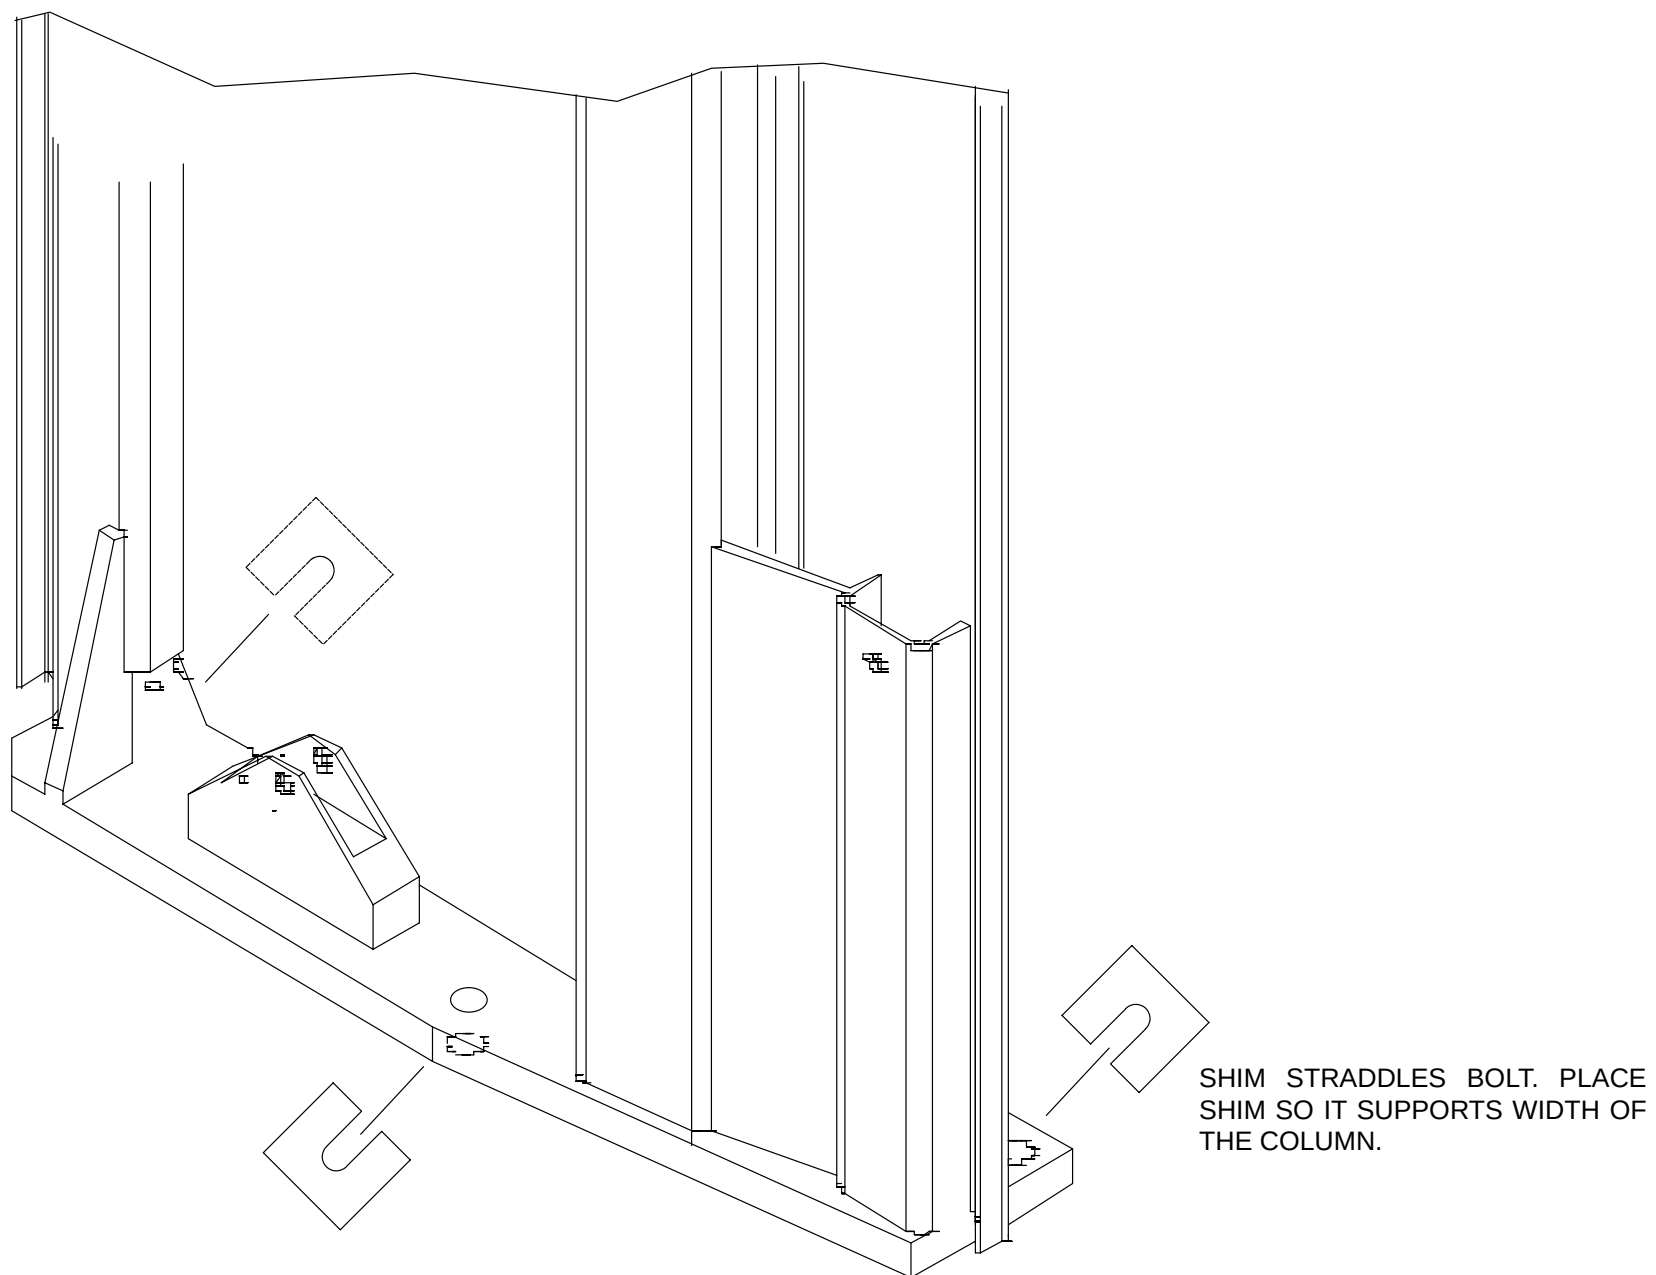
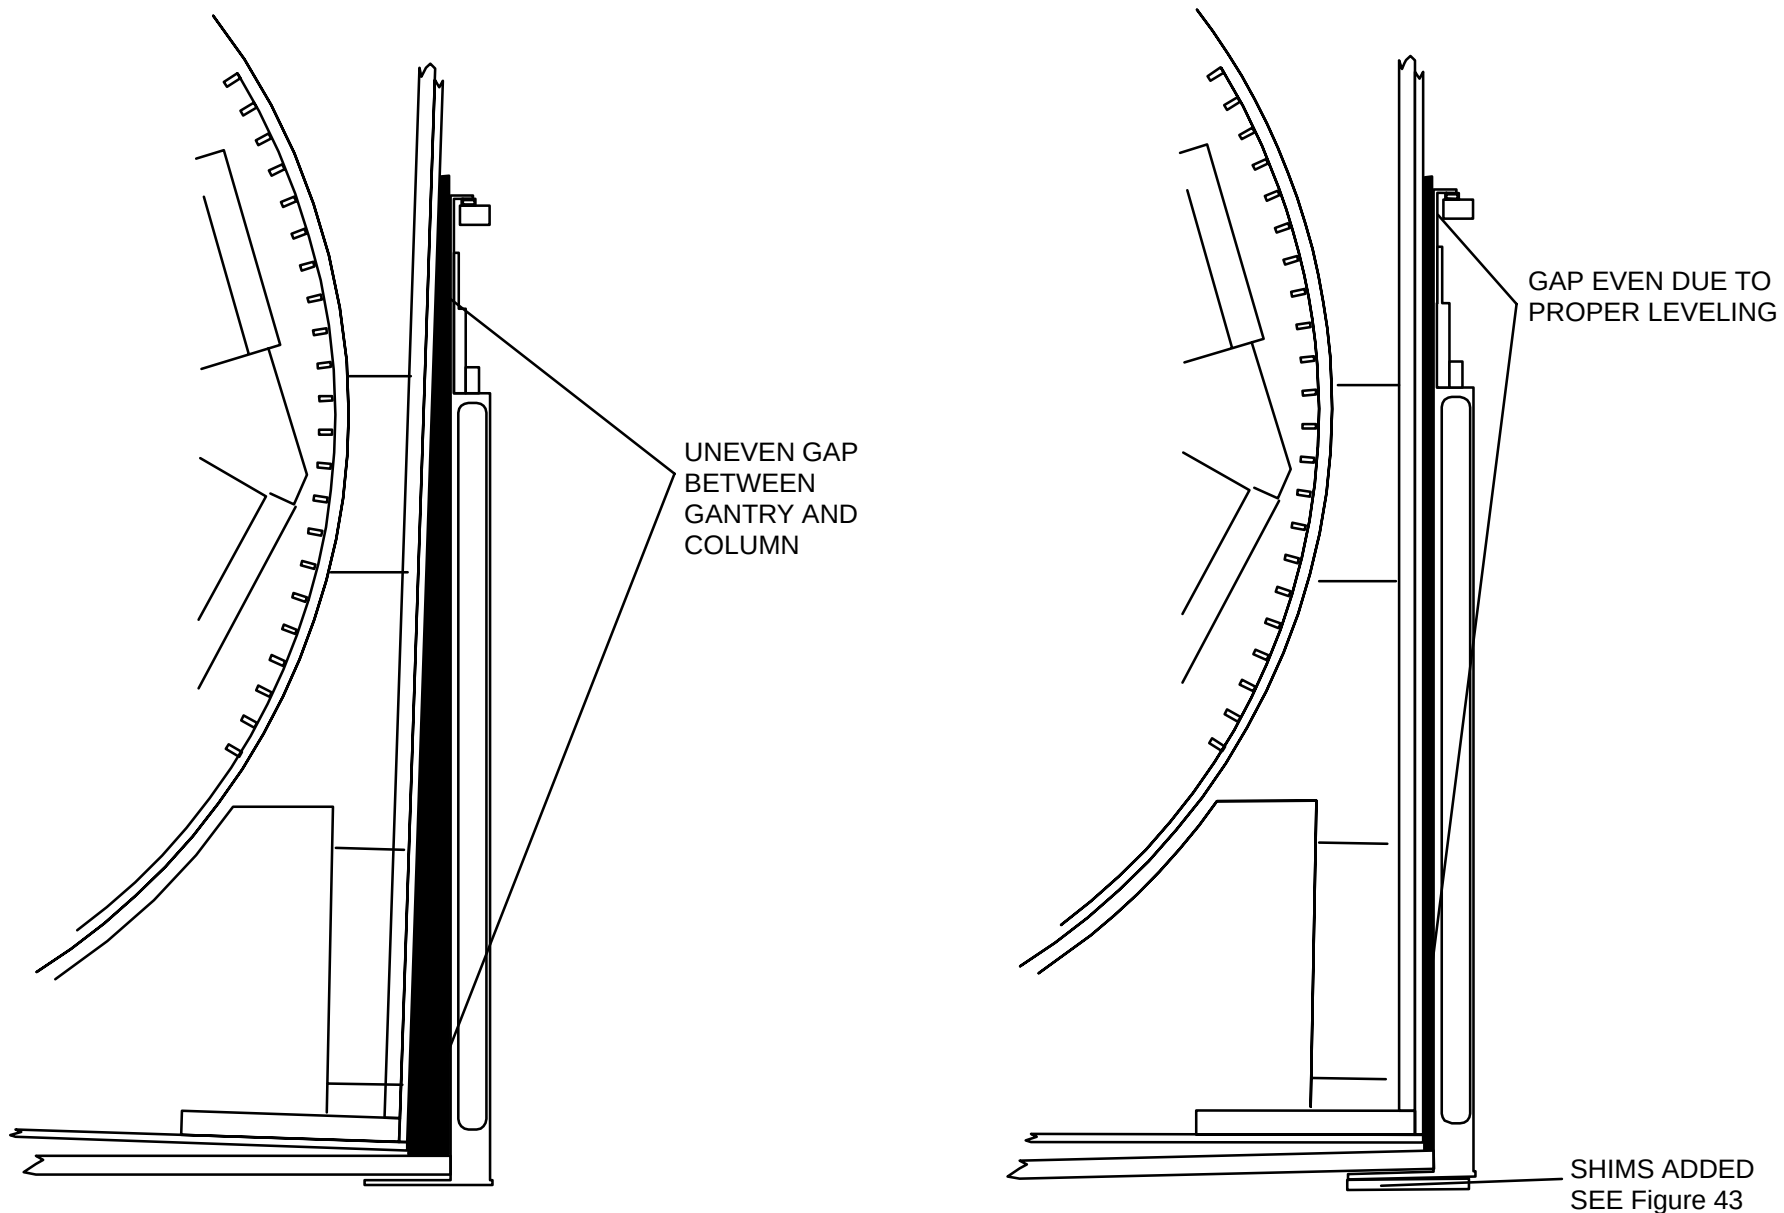

FIGURE 43 SHIM PLACEMENT AT GANTRY MOUNTING BOLTS
FIGURE 44 GANTRY / COLUMN GAP VERTICAL ALIGNMENT
- b. Place shims under the front or rear of the column being adjusted so that the level reads the same on both columns. Refer to Figure 43. The shims have a slot that straddles the floor bolt. Place the shim so that it extends outward from the bolt such that it supports the entire width of the column. Decide if sliding the shim from the inside or outside of the column is easier.
- c. The gap between the gantry and each column must be even from top to bottom on both sides OR rubbing may occur. Refer to the Gantry / Column Gap Alignment Procedure and Figure 44 for details.
9. Place shims under the column that needs them. Refer to Figure 43. Loosen the casters so the system is resting only on the floor or shims. The bolts should be installed, but not tight at this time. Turn on power at the Wall Box and tilt the gantry back and forth once (about 10–15 deg) to allow it to center itself. Now check the gap between the gantry and columns. They must be parallel and even. Refer to Figure 44. Exercise the Gantry tilt function several times to ensure there is no binding or rubbing of the Gantry covers against the columns.